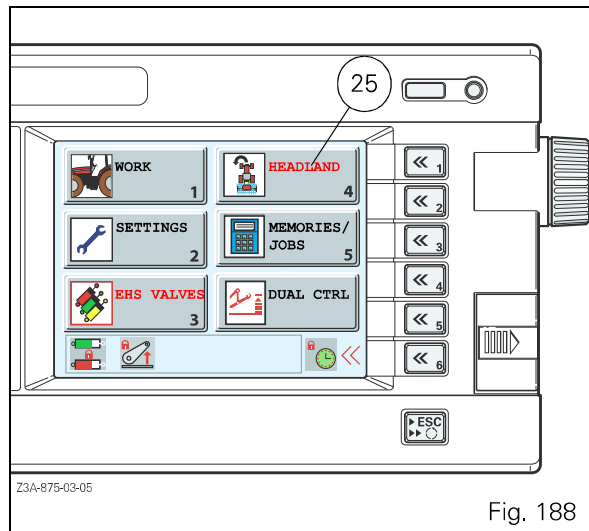

Fig. 188
**NOTE:** If a sequence reading operation is active when the window (Fig. 188) is open, the word **HEADLAND** flashes red to alert the driver (25).